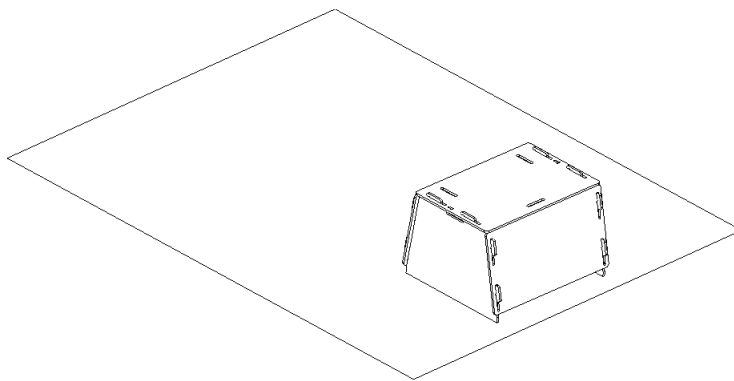

Figure 213: Scanner stand resting on the sheet.
2. Align the scanner stand with the rectangle marked on the sheet, paying close attention to the orientation of the slots in the stand cover (see Figure 213).